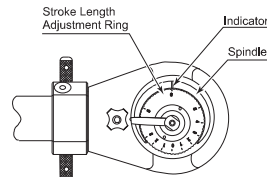

Fig. 7
- ④ Turn the adjustment ring, while holding the spindle with your finger, and align the desired stroke length with the indicator line. The stroke length can be adjusted between 0 - 6 mm. (0 - 0.236") (Fig. 7)